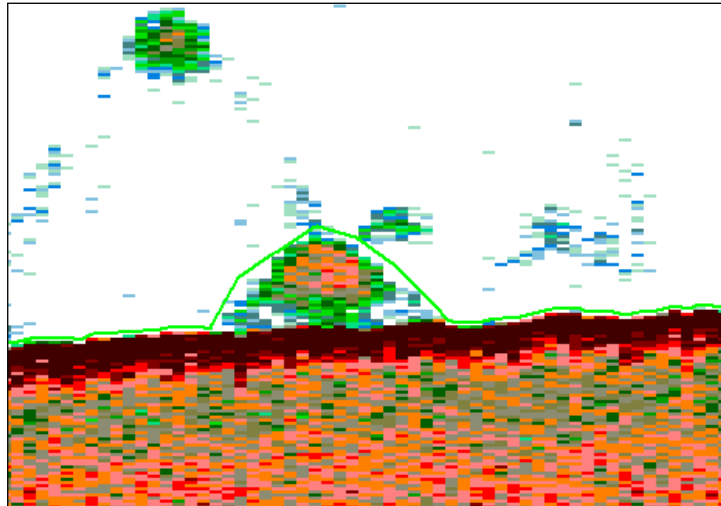

Figure 23. Echogram showing the redrawn line.
32. At the end of the final stroke, release the left mouse button, activate the **Shortcut** (right-click) menu and click **Update Active Line**. The line will be redrawn over the object as shown in Figure 23.